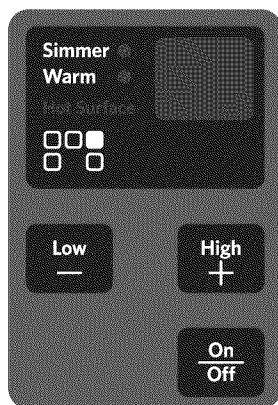

Fig. 1
3. Press the **High/+** keypad to start at the Hi setting and then press **Low/—** to scroll down to desired heat setting, or press the **Low/—** keypad to start at the Lo setting and press **High/+** to scroll up to the desired heat setting (Fig 1).